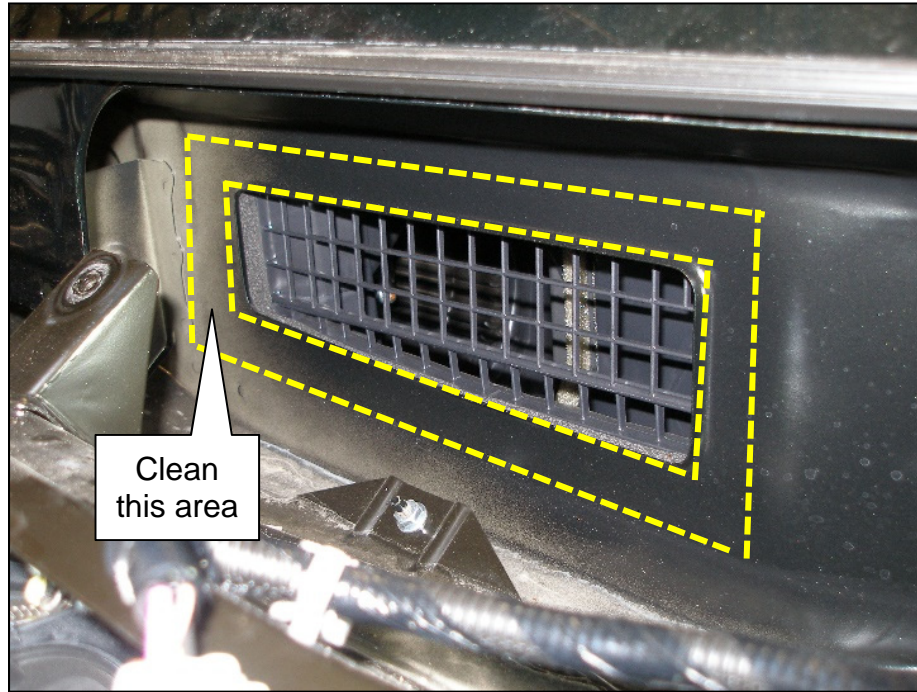

Figure 6
6. Clean the surface around the HVAC intake, where shown in Figure 6, with a 90% mixture of isopropyl alcohol with water.